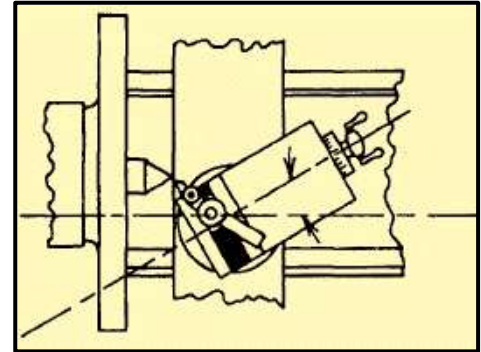

Figure 7-42. Turning of soft center true.
**Turning a Soft Center True:** First set up the tool bit for right hand turning, center the tool bit; then, rotate the compound rest to an angle of  $30^\circ$  to the axis of the lathe. The lathe speed should be set for a finish cut, and the feed is supplied by cranking the handwheel of the compound rest, thus producing a clean and short steep taper with an included angle of  $60^\circ$ . Once trued, the center should stay in place until the operation is completed. If the center must be removed, mark the position on the center and headstock for easy realignment later. (Figure 7-42).